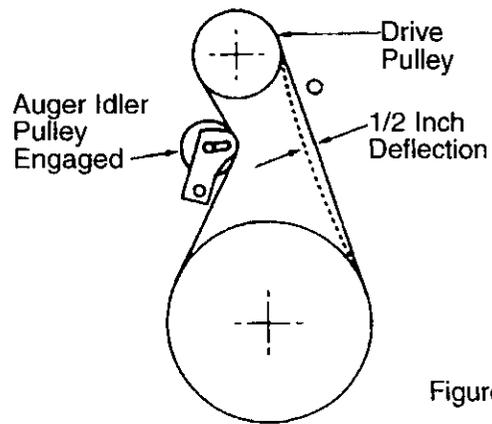

Figure 29
- Press the auger drive lever. Check the tension on the belt (opposite **auger idler pulley**). The belt should deflect about 1/2" with moderate pressure (See Figure 29).